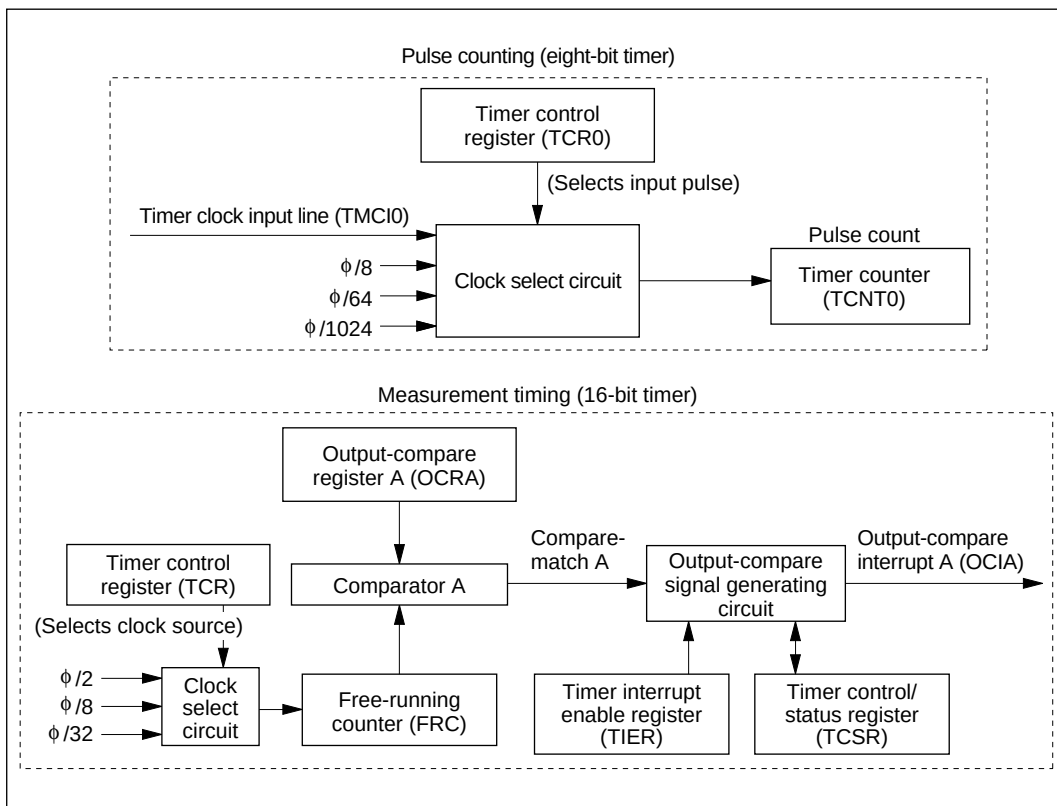

Figure 2 Eight-Bit and 16-Bit Timer Block Diagrams
1. Figure 2 shows block diagrams of the eight-bit and 16-bit timers used by this sample task. These timers have the following functions:
This task uses the preceding functions to count pulse rises as shown in figure 2.